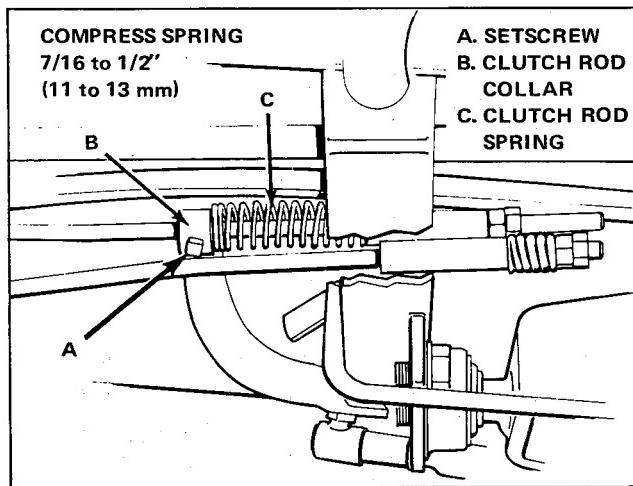

Figure 34. Clutch Rod Tension Adjustment
2. Loosen setscrew (item A, figure 34) in collar (item B). Move the collar forward or backward so that the clutch rod spring (item C) is compressed from $7/16$ to $1/2$ inch (11 to 13 mm).